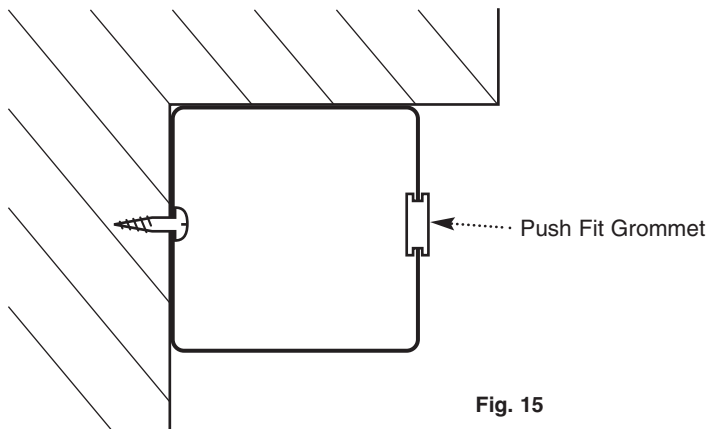

Fig. 15
46. All fittings are supplied with a matching push fit grommet (PDPLUG) on one side. This is removable to allow the fitting to be drilled and screwed through the hidden duct wall to either ceiling or wall. Removal of the grommet provides a 25mm diameter hole for access. This procedure is very similar to that used for rectangular ducting. After fixing, the 25mm dia hole is then sealed using the grommet (PDPLUG) (Fig. 15).